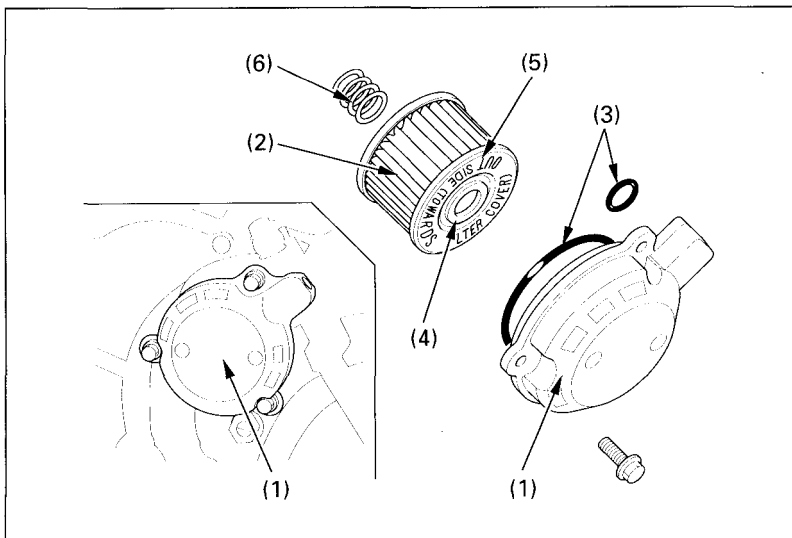

Fig. 4-13 (1) Oil filter cover
(1) Oil drain plug
3. Remove the oil filter cover (Fig. 4-13) by removing the bolts. Let the remaining oil drain out.